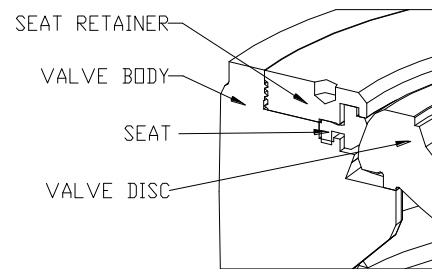

Fig. 20.2
- Insert the seat retainer into the mounting groove inside the valve body (Fig 20.2).